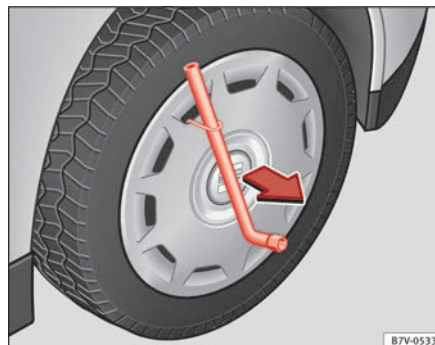

Fig. 179 Removing the full hubcap.
- Insert the wheel brace onto the wire hook ⇒ fig. 179 and pull the hubcap in the direction shown by the arrow.